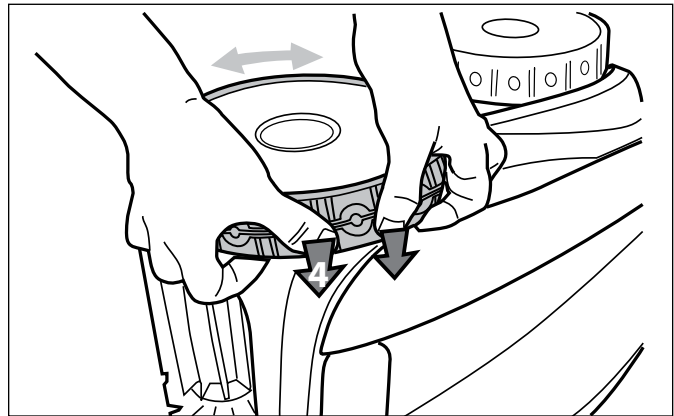

Figure 40. Push the Tire into Place on the Wheel
6. Push and position the rib of the inner side of the tire in the groove of the wheel (Figure 40). If needed, turn the wheel gently to help with installation.